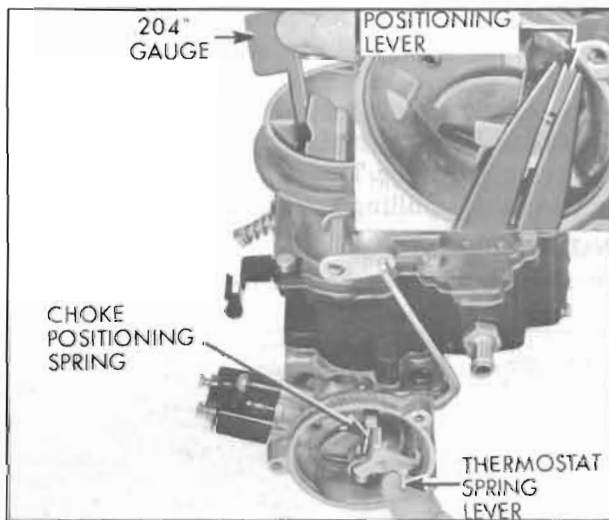

Figure 3-66—Choke Positioning Adjustment
In the choke housing there is a thermostat spring, and a choke positioning spring. An external fast idle cam operates in conjunction with the choke to provide enough throttle opening to prevent stalling during the warm-up period. The thermostat spring determines the position of the choke valve and the fast idle cam during the warm-up period for most throttle positions. However, when the throttle is near its closed position, the choke positioning spring overcomes any thermostat spring tension and causes the choke valve to partially open. See figure 3-66.
5. Partially close choke valve by applying a light pressure upward on thermostat spring lever until positioning spring lever just contacts choke positioning spring. Then measure opening between upper edge of choke valve and wall of air horn using .204" Gauge (No. 6 drill). If choke opening is wrong, bend choke positioning lever as required to correct, using needle nose pliers. See figure 3-66.